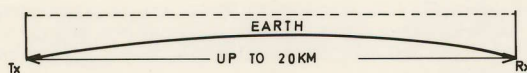

Fig.2 Ground Wave Propagation
- (a) Ground wave propagation: This is used for short distance propagation (up to about 20km). The radio signals follow the earth from transmitter to receiver. (See Fig. 2).